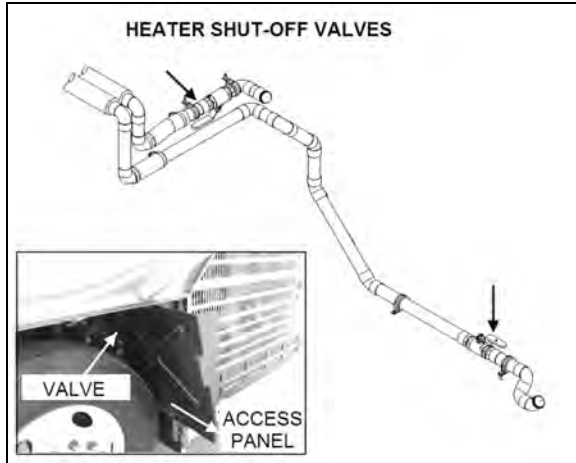

FIGURE 29: HEATER SHUT-OFF VALVES POSITION
5. Access the heater shut-off valve located behind the access panel and set it to the closed position (Figure 29).